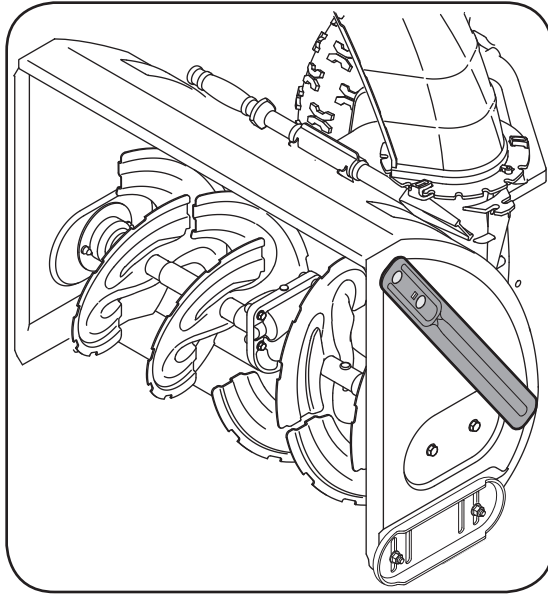

Figure 8
- The drift cutters are assembled to the auger housing inverted. See Figure 8.